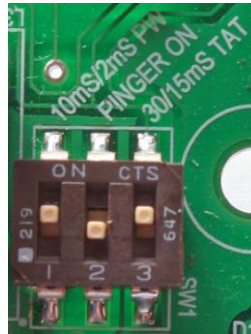

FIGURE 8
2) Set the TAT to 15mS by selecting the TAT switch on the Transmit / Receive board Switch SW1, see FIGURE 8.
3) Set the (reply) pulse width to 2mS using switch SW1, see FIGURE 8.